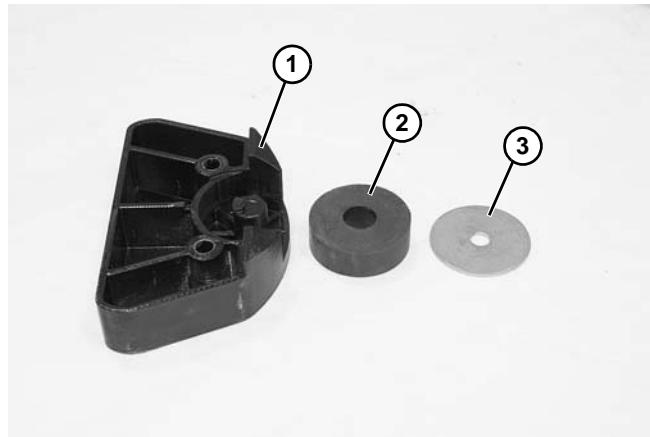

Figure 56
3. Turn over bumper pallet puck (**Figure 56, item 1**) and remove bumper (**Figure 56, item 2**) and washer (**Figure 56, item 3**).